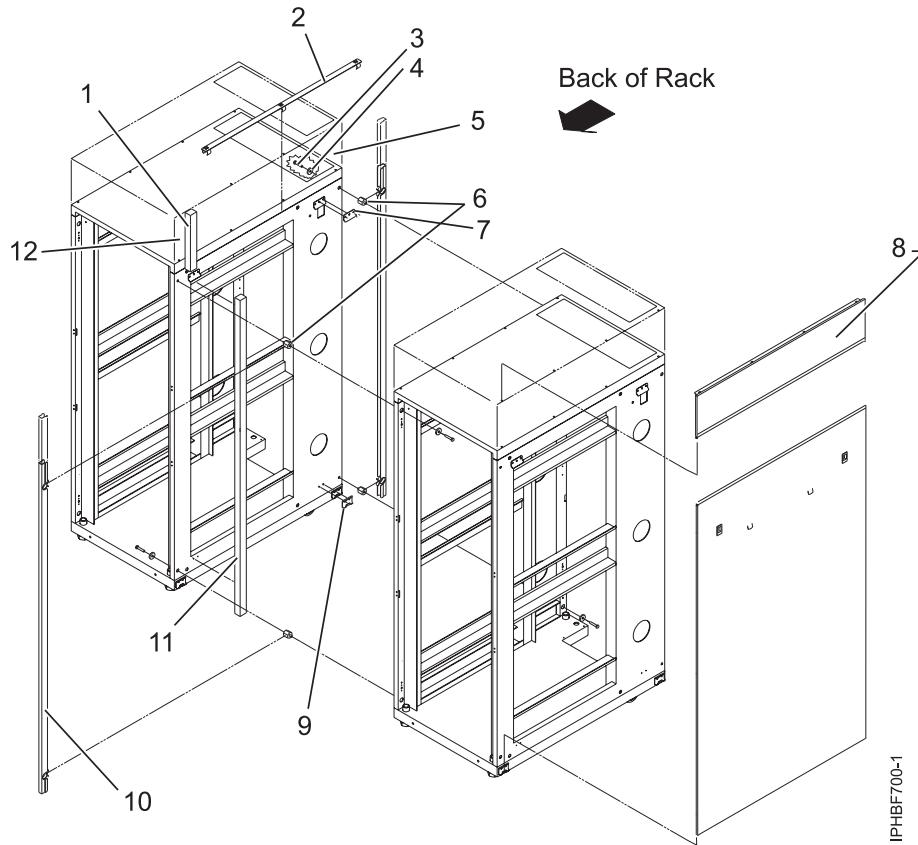

Figure 82. Removing the side panels, Z and J brackets, and installing standoffs and long foam to connect multiple racks
4. Install the first two standoffs in the upper-left and lower-right corners of the first rack as shown in Figure 82 on page 92.
5. Install the second two standoffs in the upper-left and lower-right corners of the second rack as shown in Figure 82 on page 92.
6. Attach the long foam as shown in Figure 82 on page 92. For a model T42 rack, join the short foam to the end of the long foam, and adhere it to the frame length of the rack.